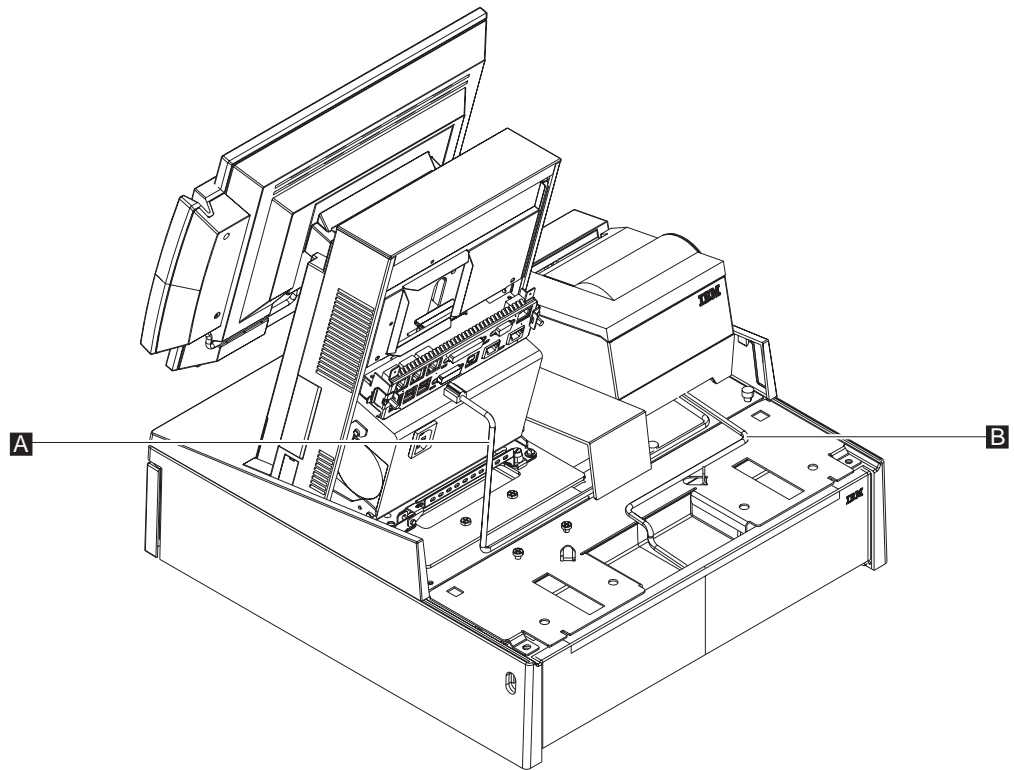

Figure 39. 4610 TF6 or TF7 cable routing
- c. Route the RS-232 cable **A** to the rear connector panel of the system unit as shown in Figure 39. Plug it into one of the three standard serial ports on the system unit.
- d. Route the printer power cord **B** toward the system and out through the hole in the integration tray, as shown in Figure 39.